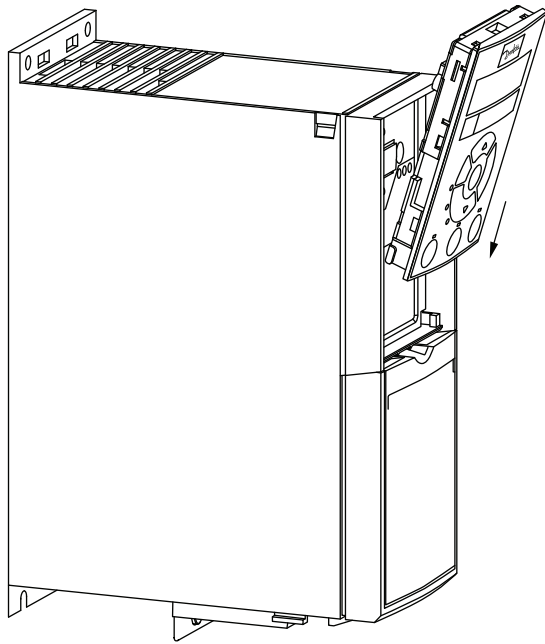

Fig. 62 — Align Bottom of VFD Keypad with Opening in VFD Front Panel
1. Place the bottom of the VFD keypad into the variable frequency drive as shown in Fig. 62.